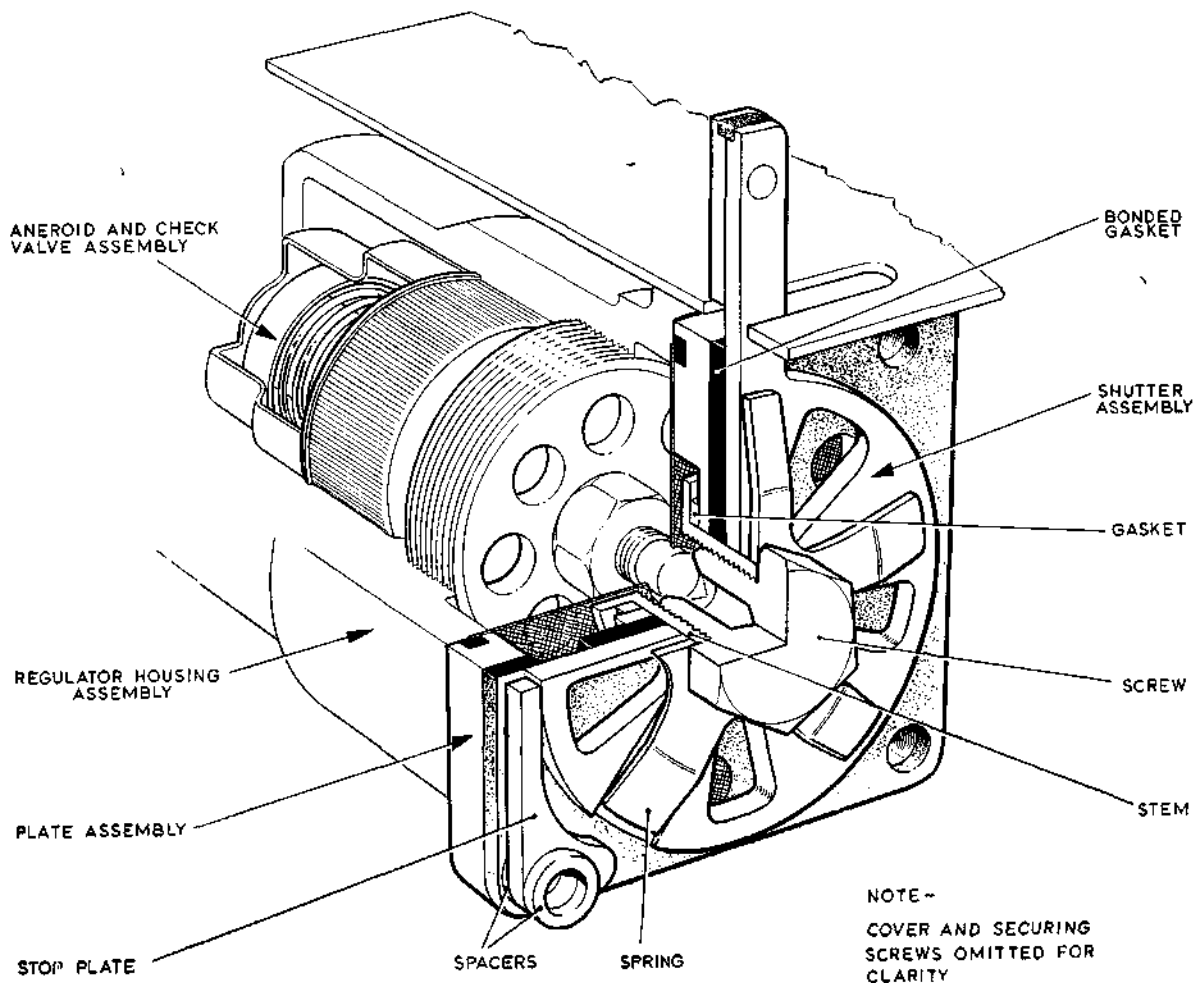

Fig. 1. Air inlet shutter assembly—Mk. 17G regulator
2. In the water-proof air inlet shutter assembly (fig.1), the rubber gasket has  $\frac{7}{32}$  in. dia. holes in place of the pear-shaped slots, and the bonded attachment to the rear plate is supplemented by